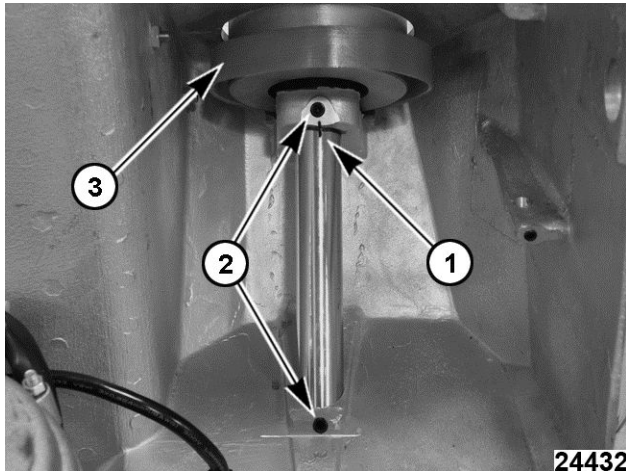

Fig. 25
8. Mark the shaft and housing for height and rotational alignment (1, Fig. 25).
9. Loosen the set screws (2, Fig. 25).
10. Lift the knife bearing assembly with rubber ring and remove the drive belt (3, Fig. 25).
3. Set the knife shaft to the proper height and alignment using the mark (1, Fig. 25) on the shaft and housing.
4. Tighten the set screws (2, Fig. 25).